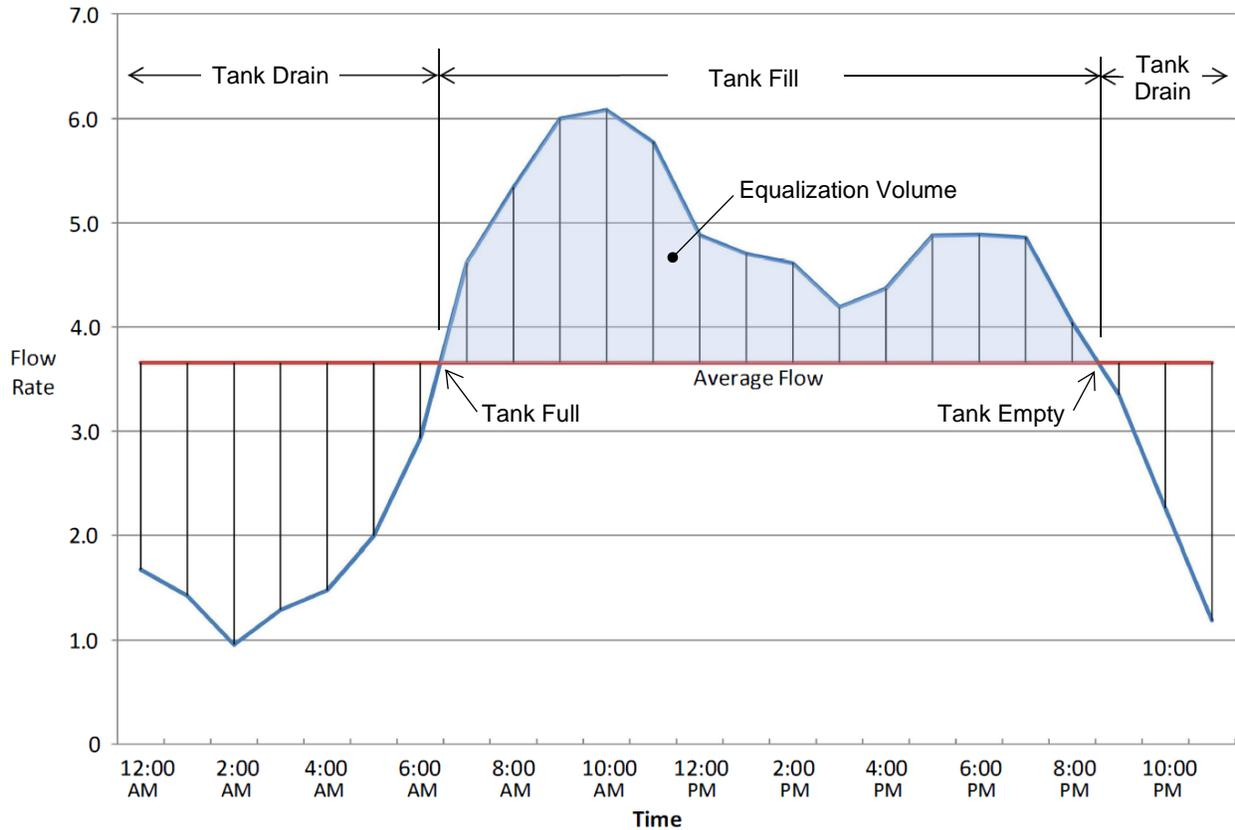

Figure 3: Example equalization curve with diurnal discharge flow in blue and the average daily flow in red.
Step 2 is to calculate the Equalization Volume (EQV) based on the diurnal facility discharge flows, as shown in Figure 3. The average daily flow is the horizontal red line, which represents the relatively constant flow out of the tank. In this curve, the tank is draining (drawing down) from 9 pm to 7 am, and the tank is filling from 7 am to 9 pm.